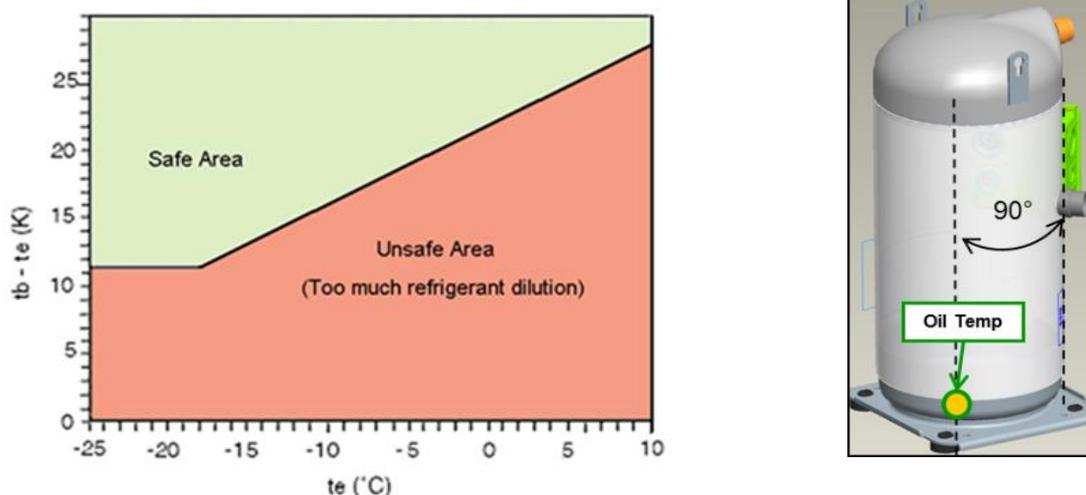

Figure 19: Oil dilution chart (tb = bottom shell temperature; te = evaporating temperature) and position for oil temperature sensor
- **In all systems:** to test liquid floodback and oil dilution, all possible transient operation conditions in the system should be checked, eg, compressor frequent start/stop, compressor start after long off time with migration, defrost, switching between the operation modes in reversible systems, load changes, fans or pumps cycling at low load and more. To evaluate the risk of liquid floodback and oil dilution, please refer to the chart in **Figure 19**.
The bottom shell temperature together with the evaporating temperature gives an indication whether liquid refrigerant is returning or diluted in the compressor oil sump. The compressor sump temperature must remain in the (green) safe area, as shown in the chart in **Figure 19**. In case of operation in the (red) unsafe area, adjustments are required in order to modify the system design, refrigerant charge or superheat setting of the expansion device(s). The bottom shell temperature should be measured accurately. The thermo-probe must be properly insulated and positioned on the opposite side of the sight glass or at an angle of 90° clockwise from the suction inlet with view on the top.